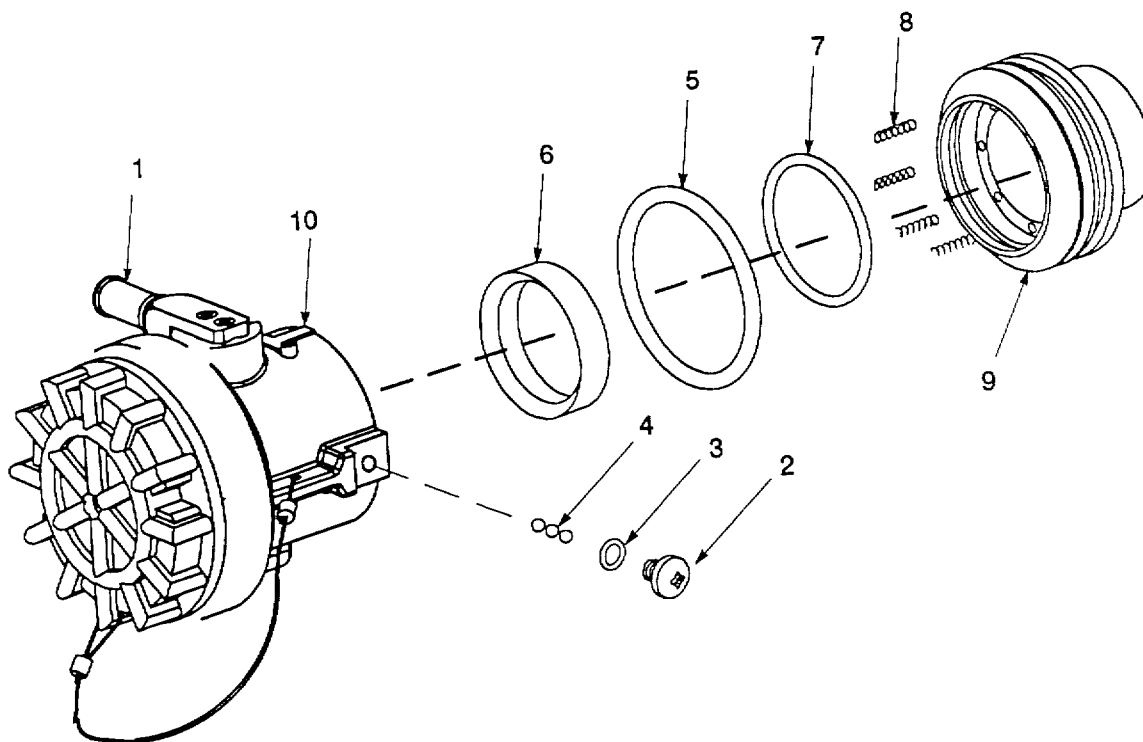

Figure 4-9. Valved Dry Break Coupling Removal.
- (12) While reversing handle (7) 3/4 turn, roll tool (4) to opposite side of seal (2). (This will bend strapping and prevent it from slipping through seal when tool is removed.)
- (13) Pull cutting handle (8) on tool to cut strapping (1).
- (14) Remove tool (4) while holding strapping stub down on seal (2) with thumb.
- (15) Clinch end of clamp (1) by hammering down tag end clamp over seal (2).
- (16) Repeat steps (7) through (15) for three remaining clamps (2,3, and 7, figure 4-9). Clamps should be 1-inch from end of hose and 2-inches apart.
- (17) Slide sleeve (5) over clamps (6 and 7).
- (18) Slide sleeve (1) over clamps (2 and 3).
- (19) Install hose assembly in fuel system (para 3-4b).
- (20) Start up fuel system (para 2-12g) and test repaired hose for leaks.
- a. Removal. Refer to figure 4-9.